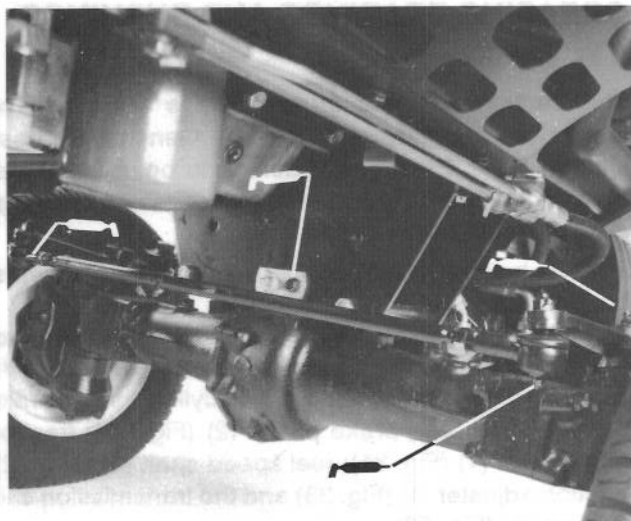

Figure 36
Four wheel drive machines – tie rod assemblies (2), center pivot (1), axle knuckles (2) (Fig. 36); cylinder ends (2) (Fig. 37)..